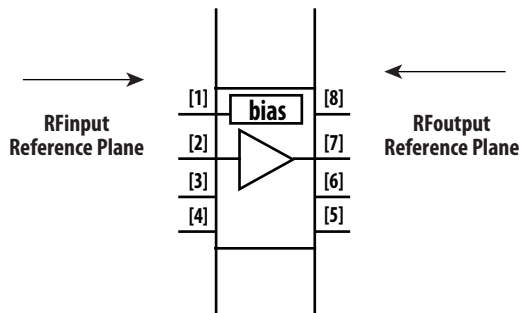

Figure 32
2. Scattering and noise parameters are measured on coplanar waveguide made on 0.010 inch thick ROGER 4350. The input reference plane is at the end of the R_{Finput} pin and the output reference plane is at the end of the R_{Foutput} pin as shown in figure 32.